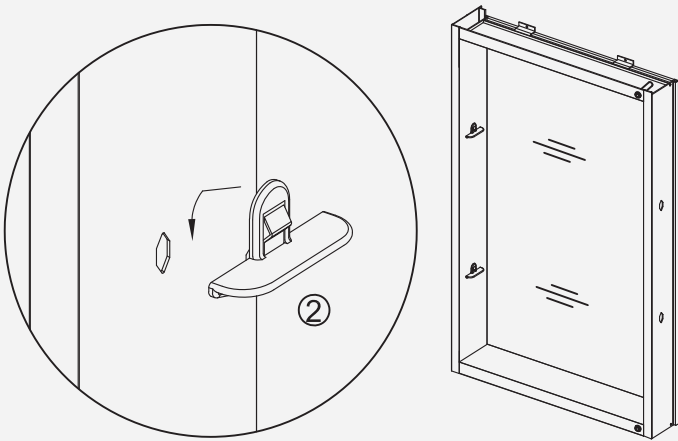

Fig 16
**1.** Insert clear shelf clip ② into appropriate hole location using 2 clips per shelf (Fig 16).